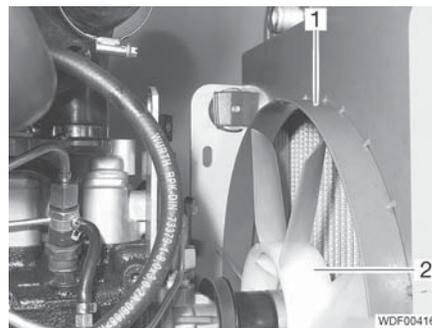

Fig. 7 Radiator
- Manually check that the fan wheel (Fig. 7,2) turns smoothly.
- Check whether the fan wheel terminates on the radiator side with the guide ring (Fig. 7,1).